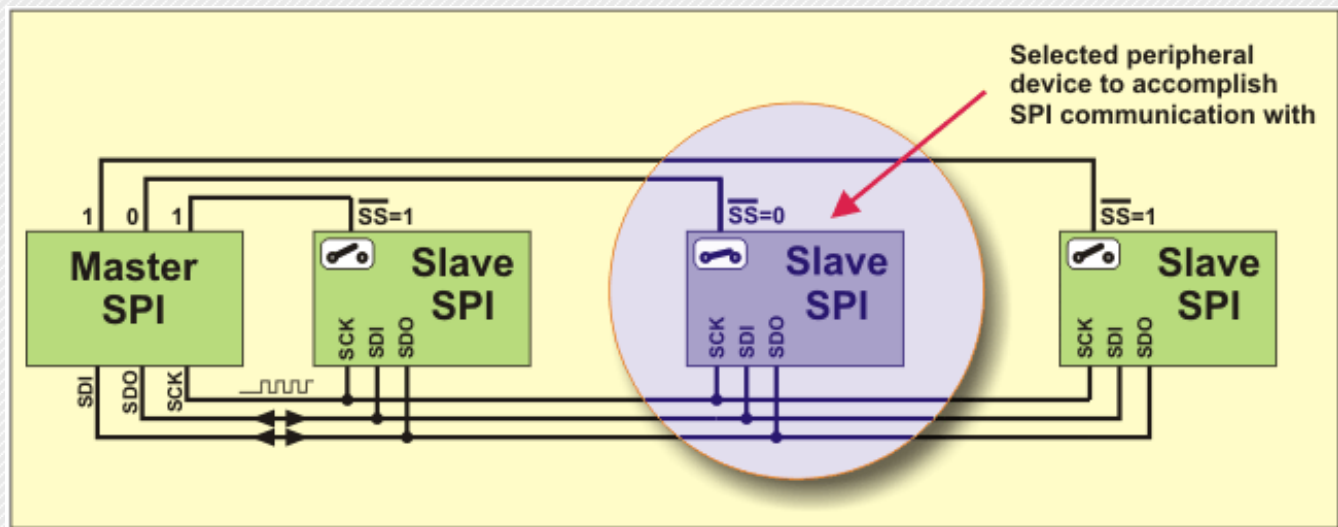

Fig. 6-13 SPI Mode
In addition to these three lines, if the microcontroller exchanges data with several peripheral devices, the fourth line (SS) may be also used. Refer to figure 6-13 below.